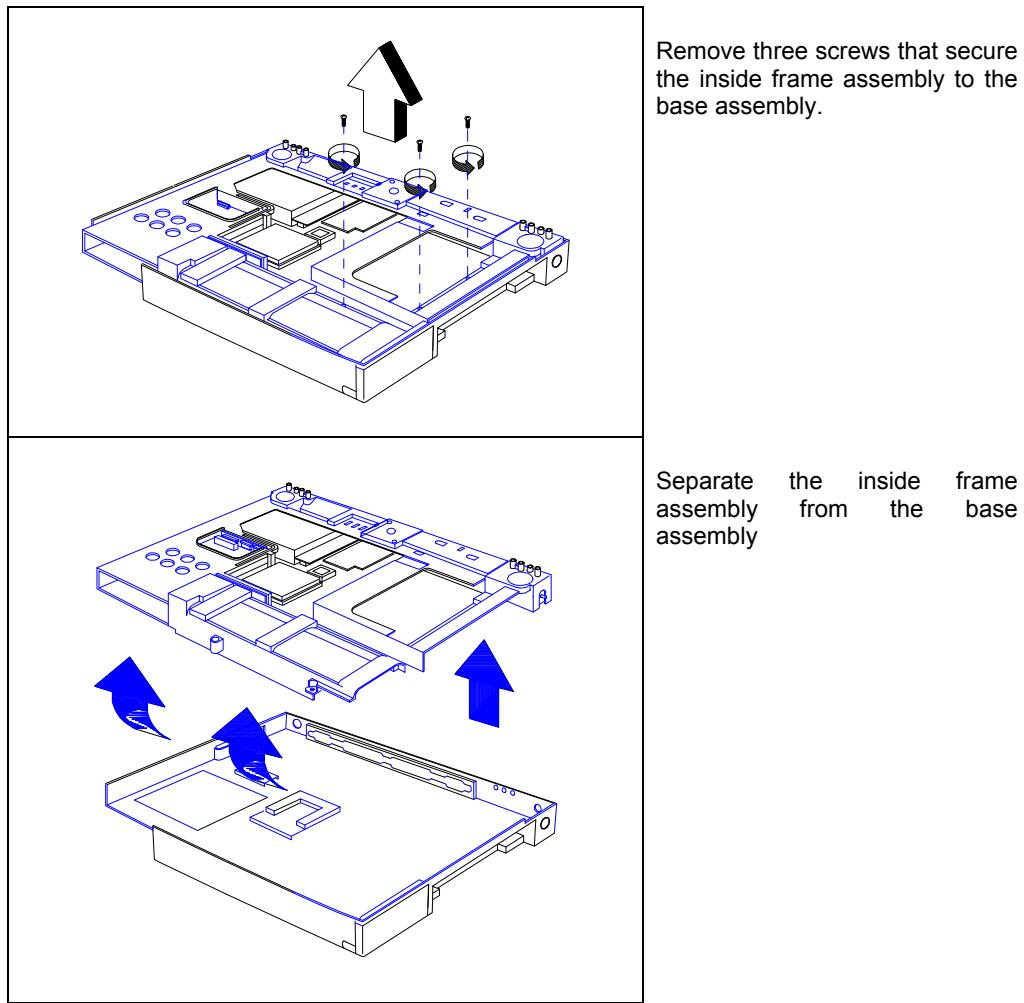

Figure 6-18 Removing/Replacing the Inside Frame Assembly
2. Separate the inside frame assembly from the base assembly as shown in Figure 6-18.